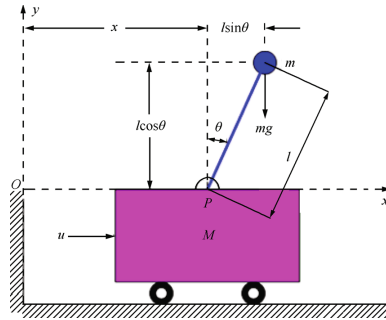

Fig.1 Motor driven inverted pendulum-cart system
1. An inverted pendulum is a classic problem in control theory and robotics. It involves a rigid pendulum that is mounted on a cart, where the objective is to keep the pendulum balanced in the upright position by moving the cart back and forth., see Figure 1. This problem is challenging because it requires precise control of the cart's position and velocity to maintain the pendulum's equilibrium.
As can be observed in the Figure 1, if we take the Cartesian axes with the origin  $O'$ , we can deduce the equations of motion of the pendulum. We can apply both Newton's second law and the Lagrange's theorem (equations of energy).